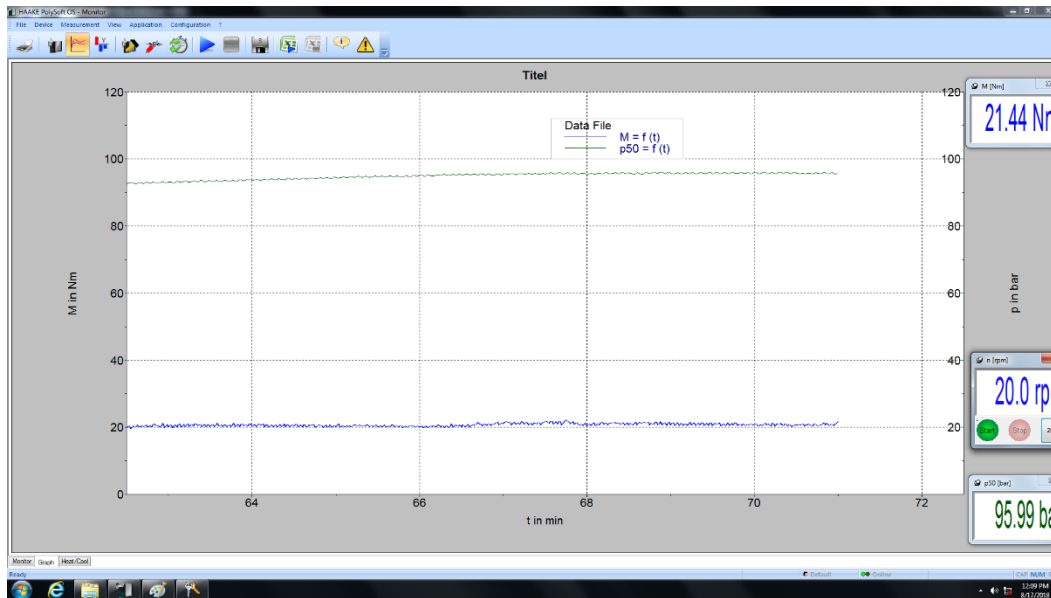

Fig. 3 Pressure and torque curves for HDPE filament once equilibration is reached
- 3) If using a gravimetric or volumetric feeder, the feed rate can be increased incrementally as the screw speed is increased. The extruder will reach a steady state once a balance between feed rate and screw speed is achieved. The torque and die pressure curves will have very little fluctuation. An example of pressure and torque curves of extruding HDPE is shown in Fig. 3.